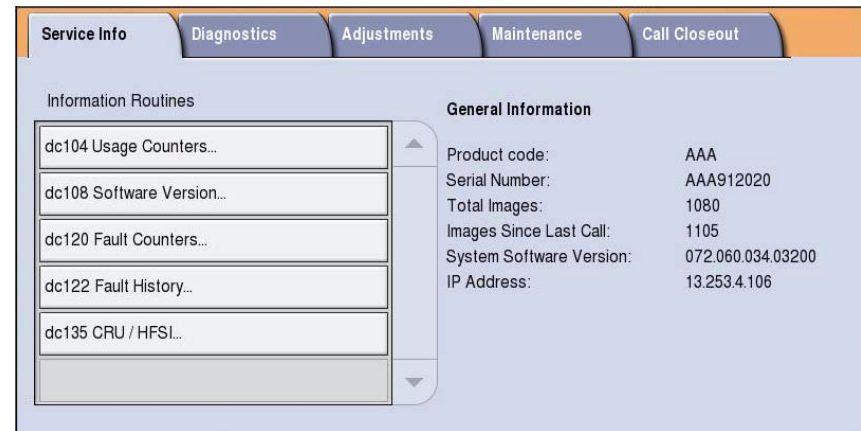

Figure 1 Service Diagnostics interface
4. The Service Info tab is displayed upon entering Service Diagnostics as shown in Figure 1.